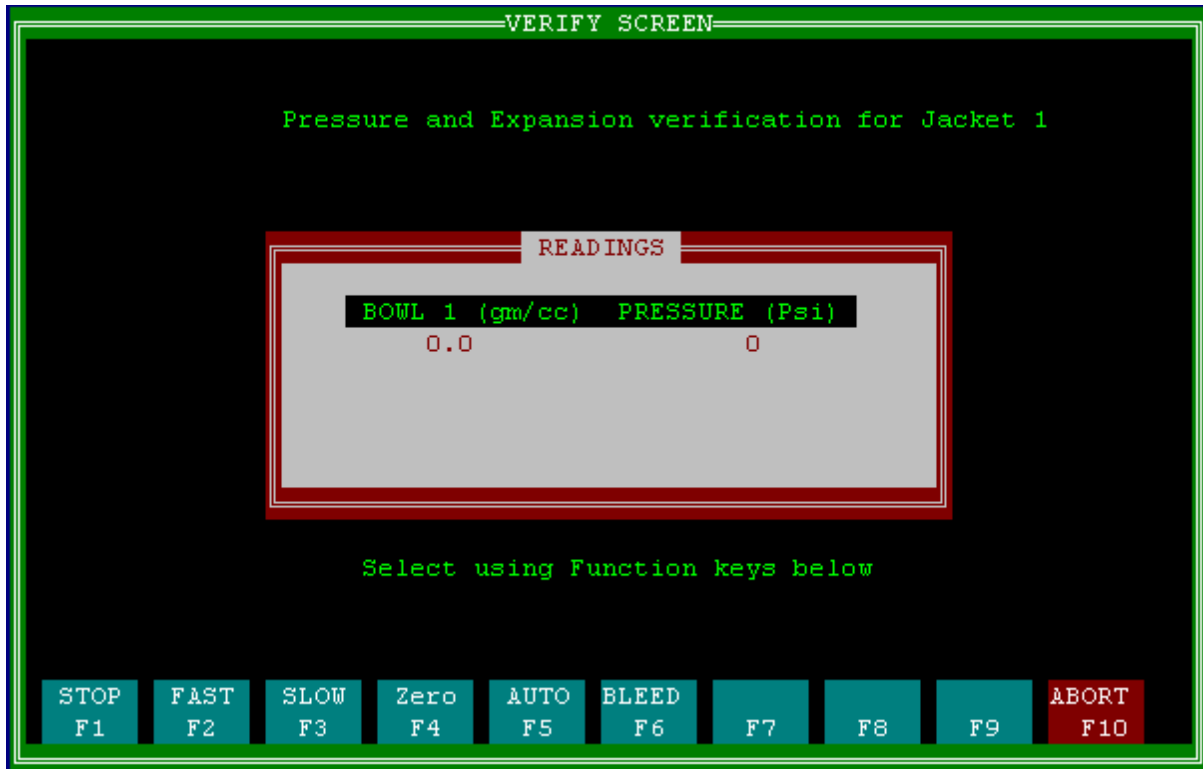

Figure 12-1: Verify Screen
- When the Calibrated Cylinder has been loaded into the test jacket, press any key to continue with the verification program. The Verify Function Menu will appear on the Display Monitor, as shown in Figure 12-1, below.